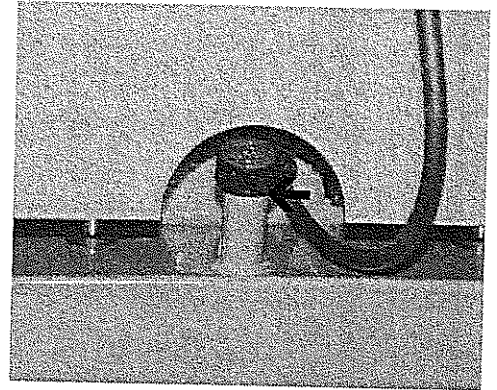

Fig.17 Oil filler cap
- Remove the oil cap (fig. 17) and fill the tank with suitable oil (the oils to be used are indicated on page 5), pouring in about 4 litres.